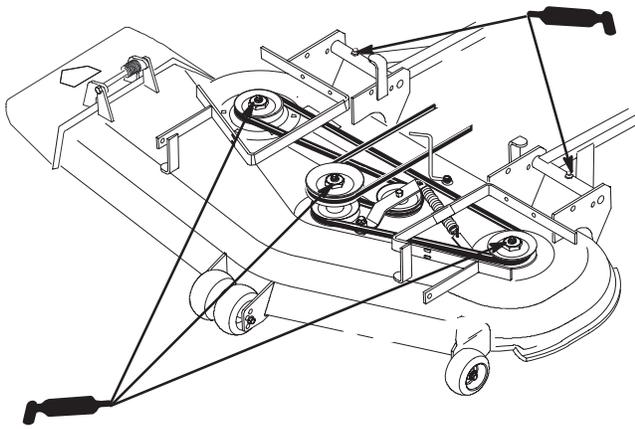

Figure 42
2. Grease the fittings on the three spindle bearings until grease comes out lower seals (Fig. 42).
3. Grease the fittings on the push arms (Fig. 42).